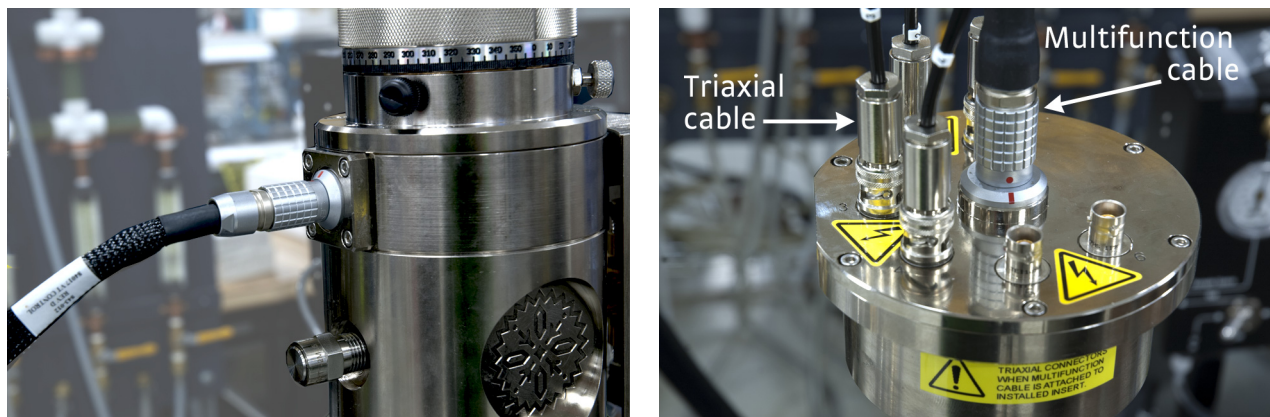

FIGURE 4-35 Left: Disconnect the VT-control cable on the oven;
3. When the system reaches room temperature, disconnect the 7-pin VT-control cable on the oven (FIGURE 4-35).
4. On the oven insert, disconnect the 22-pin multifunction cable and then disconnect the six triaxial cables (FIGURE 4-35).
5. Unscrew the two captive thumbscrews on the oven insert (FIGURE 4-35).
3. When the system reaches room temperature, disconnect the VT-control cable on the oven (FIGURE 4-35).
4. On the oven insert, disconnect the 22-pin multifunction cable by pulling on the silver locking sleeve, and then disconnect the six triaxial cables (FIGURE 4-35).